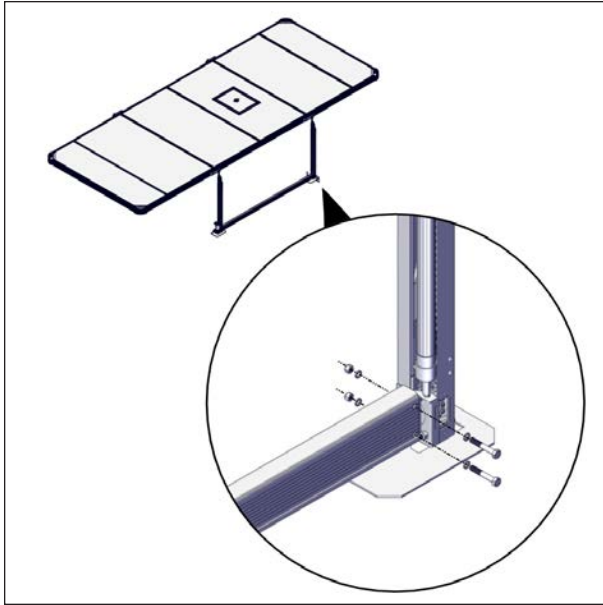

FIGURE 81: U-FRAME INSTALLATION
4. Install the U-frame over the drive shaft. The U-frame is attached to the post bracket of the motor and non-motor jacks. Fasten in place using the hardware provided: four hexagonal 5/16" x 2" screws, four 5/16" nylon insert locknuts, and eight 5/16" flat nylon washers. Use a 1/2" (13 mm) socket wrench and spanner see Figure 81.